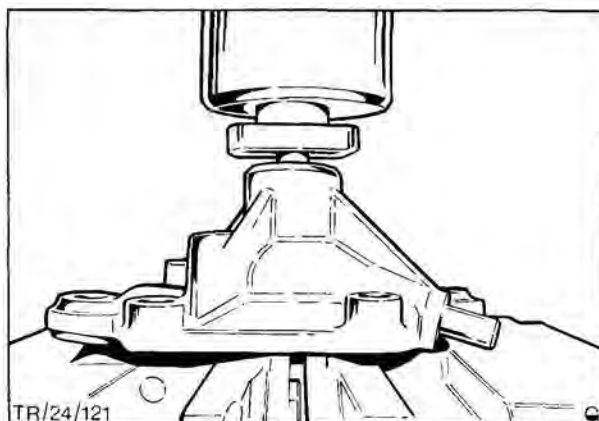

Fig. 16. Press pulley hub onto front end of shaft
8. Press pulley hub onto front end of shaft Fig. 16 using a suitable adaptor and with impeller end of shaft suitably supported. End of shaft should be flush with end of pulley.